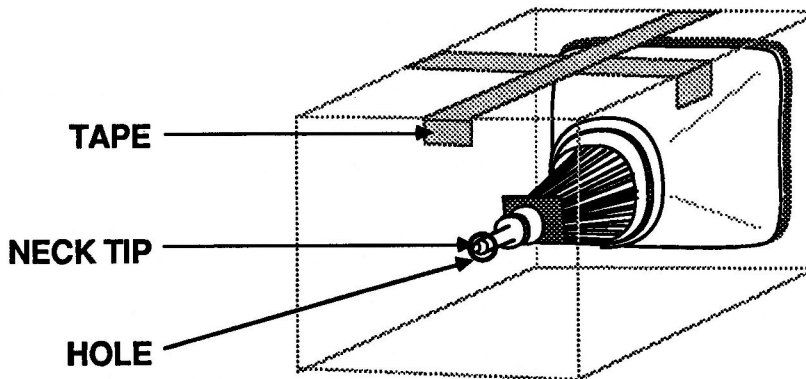

FIGURE 4
3. Place the CRT inside the box with the tip of the neck protruding through the hole, and tape the box flaps down with duct tape (Figure 4).